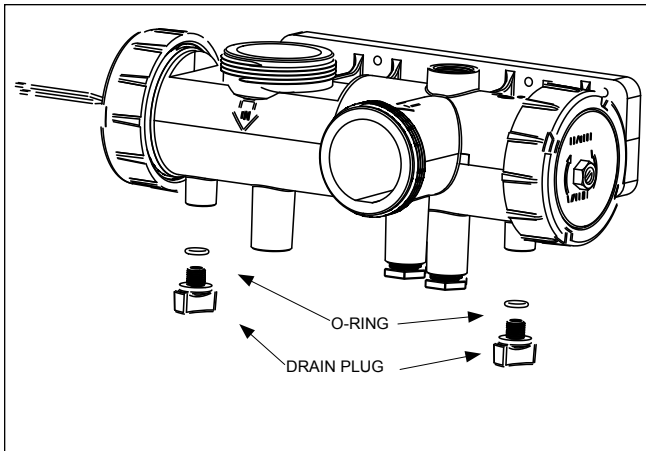

Figure 35. Draining the Heater
6. Locate the bypass adjustment screw on the right-hand side of the header, see Figure 35. Loosen the nut so that the screw can be adjusted. A slight water leak past the nut may be expected. Turn the screw counterclockwise to decrease the temperature rise, and clockwise to increase the temperature rise as needed to achieve the ranges in Table 8. After the adjustment, tighten the nut so that no leaks occur.
4. Remove the drain plugs from both the inlet/outlet header and the return header, see Figure 35 and Sections 11.3 and 11.4, Exploded Views, and completely drain the heater before the first frost.